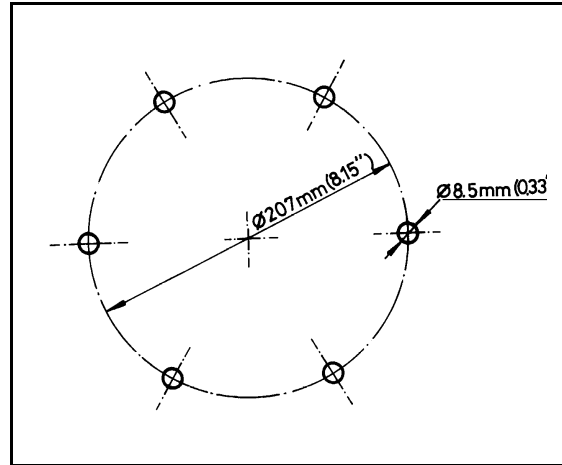

Figure 4-2: Robot Base Plate Layout
2. Fasten the base of the robot arm to the work surface with at least 3 bolts 120° apart, as shown in Figure 4-2.